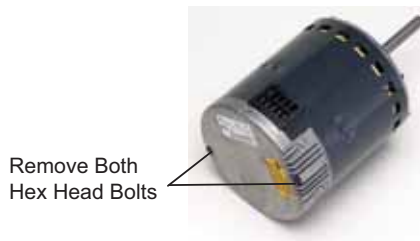

Figure 17.
- 4 - Remove the two hex head bolts securing the motor control module to the motor (**FIGURE 17**).